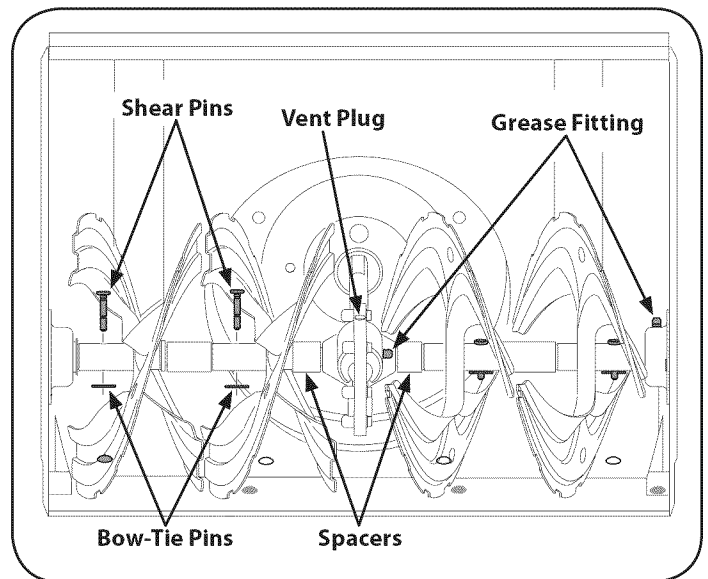

Figure 22
Grease fittings can also be found at each end of the auger shaft and can be lubricated. Lubricate with a grease gun once a season. See Figure 22.
The auger gear case is equipped with a grease fitting. Lubricate with grease once a season (part number 737-0168). See Figure 22.
NOTE: To relieve pressure, remove the vent plug before lubricating the gear case. See Figure 22. Failure to do so could result in damage to the gear case seals.
2. Replace the pins if needed. Replacement shear pins and cotter pins have been provided with the snow thrower. Spray an oil lubricant into shaft before inserting new pins and securing with new cotter pins. See Figure 22.